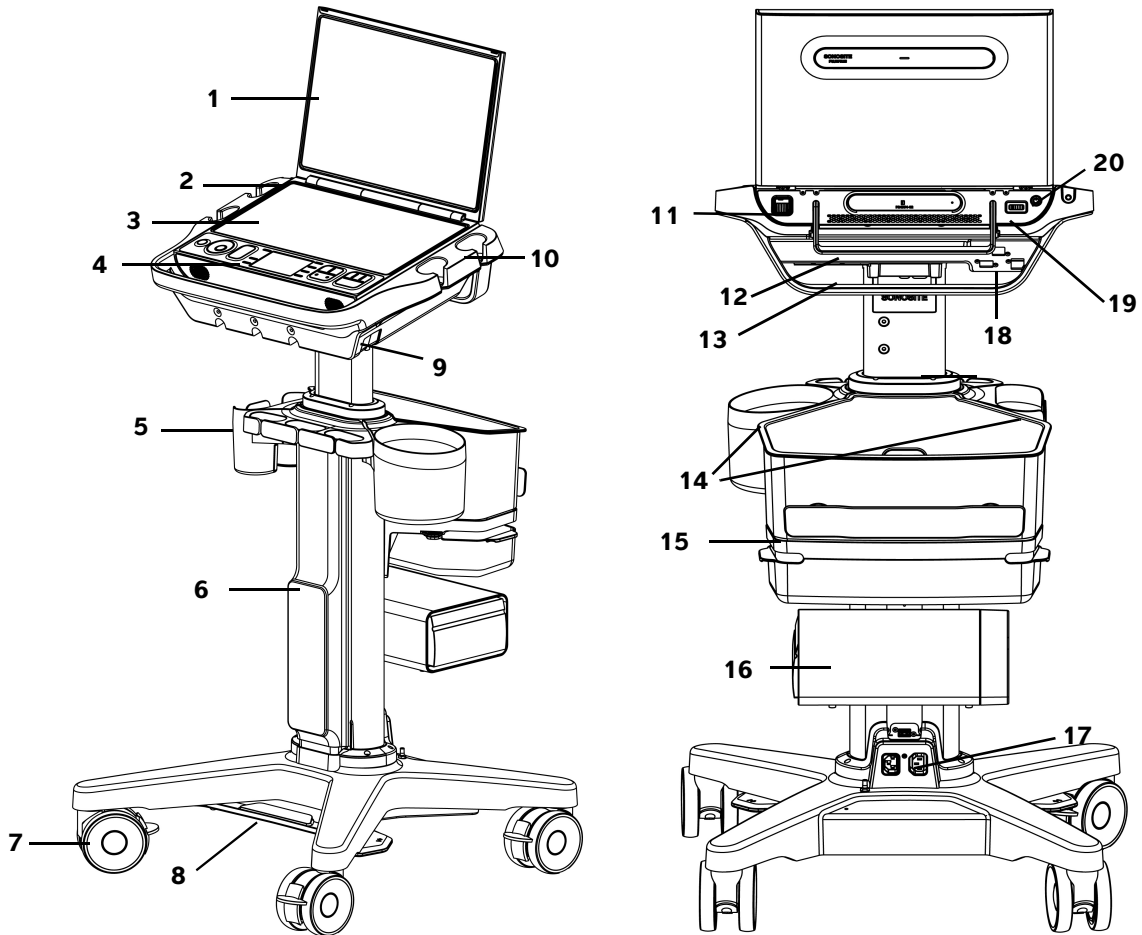

Figure 3-1 Sonosite PX system on the stand
- 1 If you are operating the system using AC power, do one of the following (refer to Figure 3-1 on page 3-2):